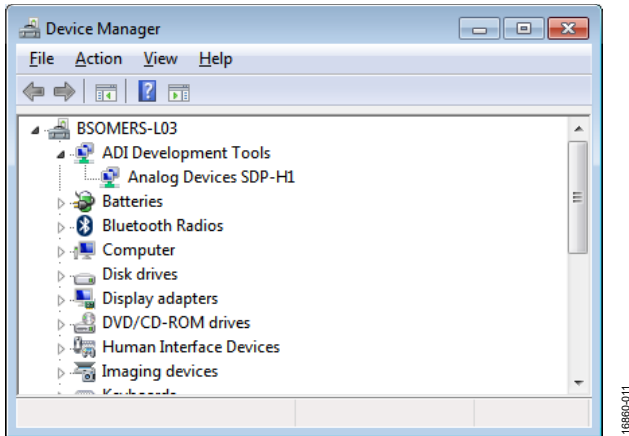

Figure 11. *Device Manager* Window
3. If the **EVAL-SDP-CH1Z** driver software is installed and the board is connected to the PC correctly, **Analog Devices SDP-H1** appears nested under **ADI Development Tools** in the **Device Manager** window, as shown in Figure 11.